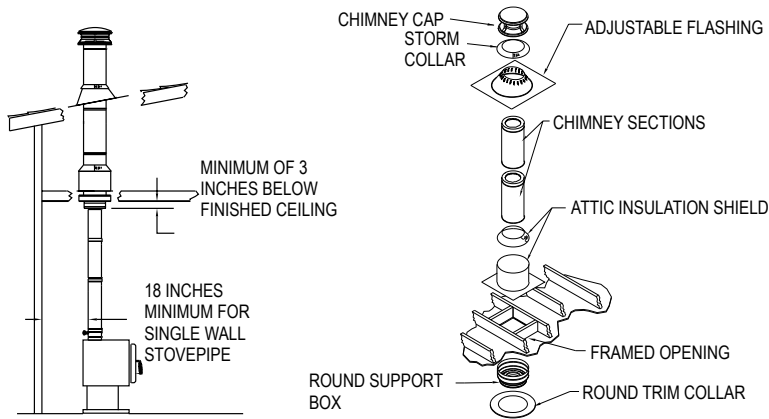

Figure 3
- 2. Frame Support Opening:** Drop a plumb bob to the center of the appliance's flue outlet and mark this center point on the ceiling. Refer to **Table 2** for specific framing and clearance dimensions. Mark appropriate cutting lines around the center point. Cut a square hole in the ceiling for the Support Box. Frame a level, square opening centered over the hole which you have cut. (**Figures 3 and 4**).